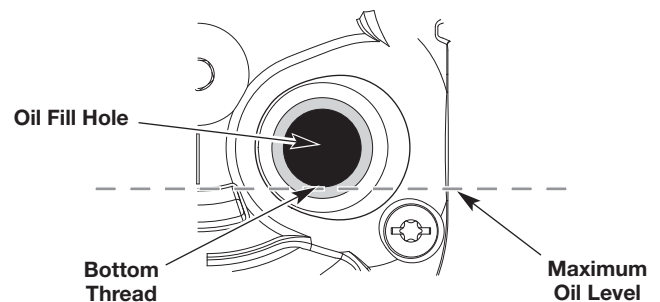

Fig. 22
5. Look into the oil fill hole; use a flashlight if necessary. **The oil level should just touch the bottom thread of the oil fill hole** (Fig. 22). If the oil level is too low, add oil to the oil fill hole until the oil level touches the bottom thread of the oil fill hole.